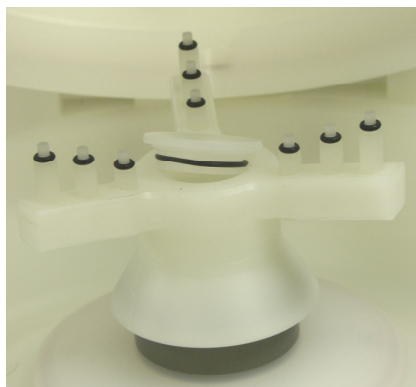
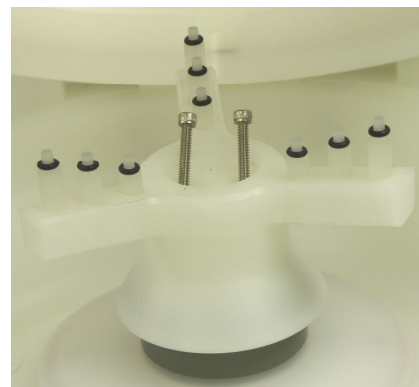
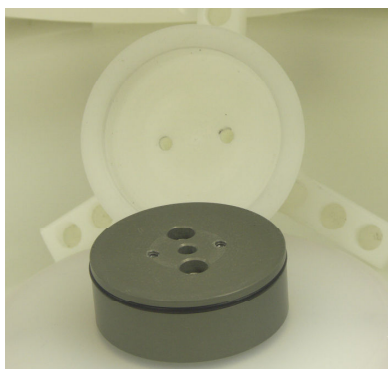

Figure 3-14a
Figure 3-14b
Figure 3-14c
- 2. Bolt Down Chuck Assembly:** The first step in removing the bolt-on chuck is to remove the screw cover insert (see figure 3-14a). Once the insert is removed, you will notice 2 screw heads (fig. 3-14b). Use a 9/64" Allen wrench to remove both screws and gently pull the chuck upward until it is free of the motor shaft adapter (fig. 3-14c). Replacing the chuck is done by aligning the screw holes and inserting it onto the motor shaft adapter, and tightening the screws. Then press the insert back into place. **Do not force the chuck into position, or hit with anything to seat it (STOP immediately and contact the factory for advice).**